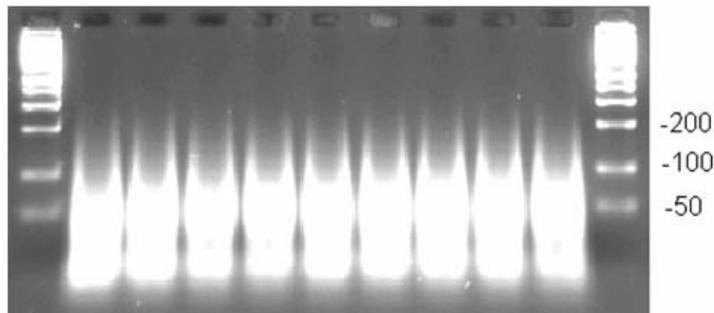

Figure 5.15 Typical example of fragmented PCR products run on 4% TBE agarose gel at 120V for 30 minutes to 1 hour. Average fragment size is < 180 bp.
4. Inspect the gel and compare it against the example shown in Figure 5.15 below.